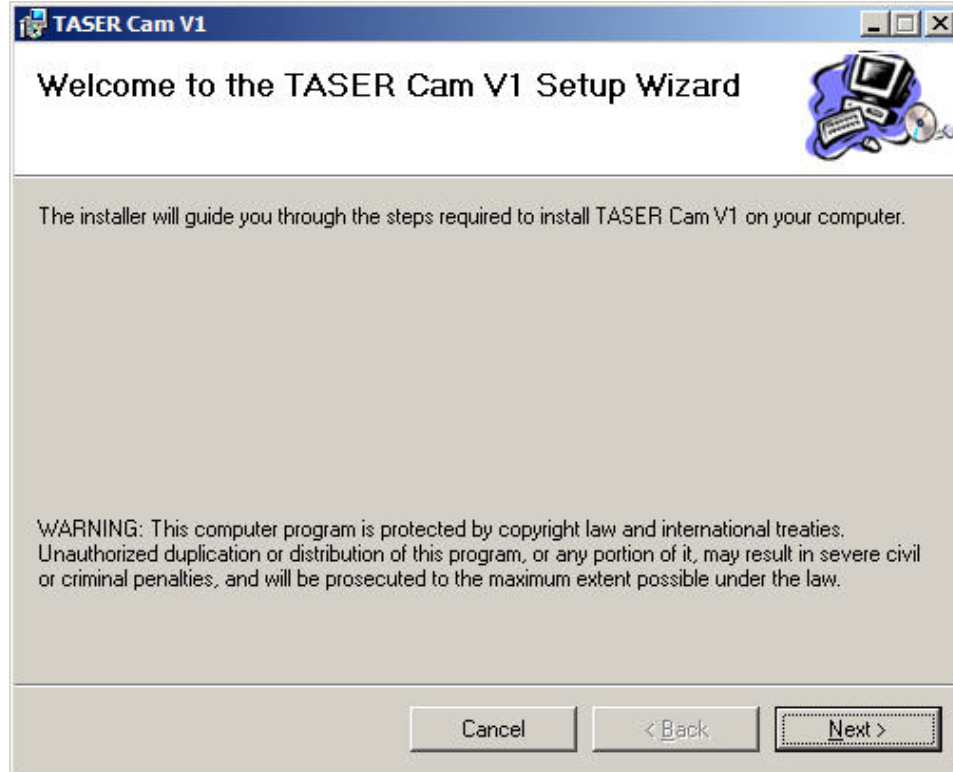

Figure 1
3. Insert the TASER CAM CD. The TASER CAM Setup Wizard Screen should appear automatically (Figure 1). If it does not, go to the CD/DVD drive and click **setup.exe**.